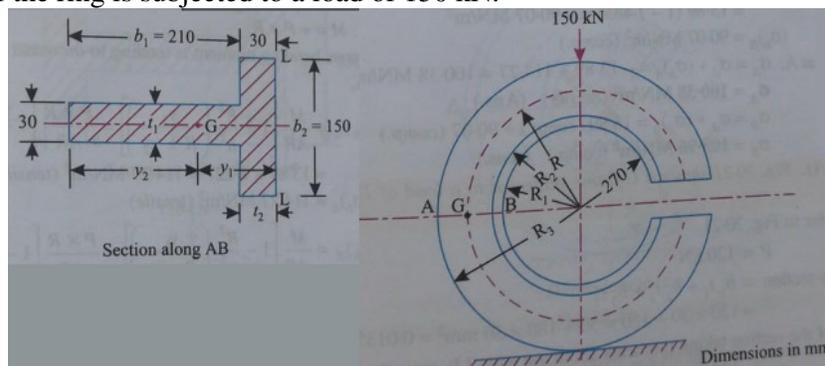

Fig.1
4. Figure.1 shows an open ring having T section. Determine the stresses at the points A and B if the ring is subjected to a load of 150 kN. [7M]